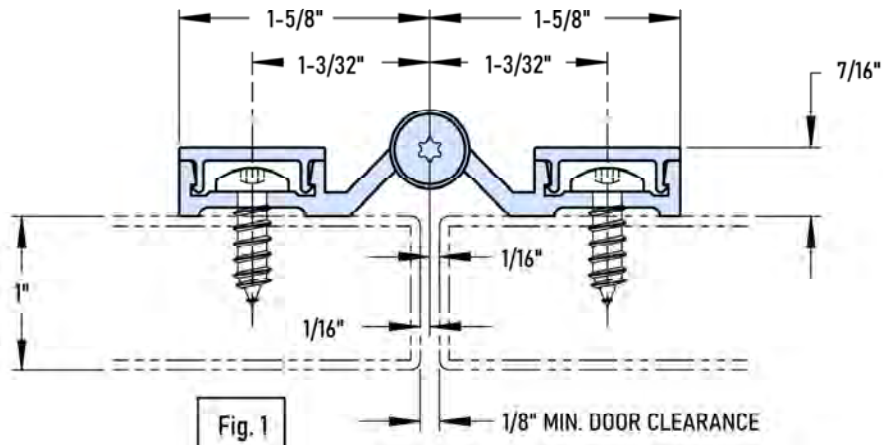
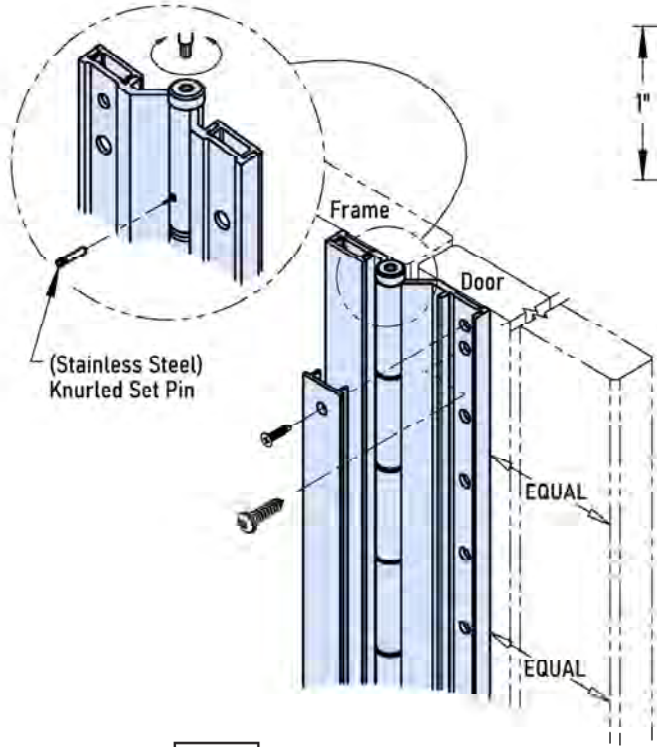

Fig. 1
Fig. 2
- Place the hinge on partition door as shown (Fig. 1). Be sure the hinge is properly aligned with the top of the door. Measure from the edge of the door to hinge at both the top and bottom to ensure that the hinge is located squarely on the door (Fig. 2).
- Install the three cover clips in each leaf by passing a screw through the clip and hinge leaf and into the door (Fig. 2). We recommend that the clips be positioned at the top, center and bottom holes.